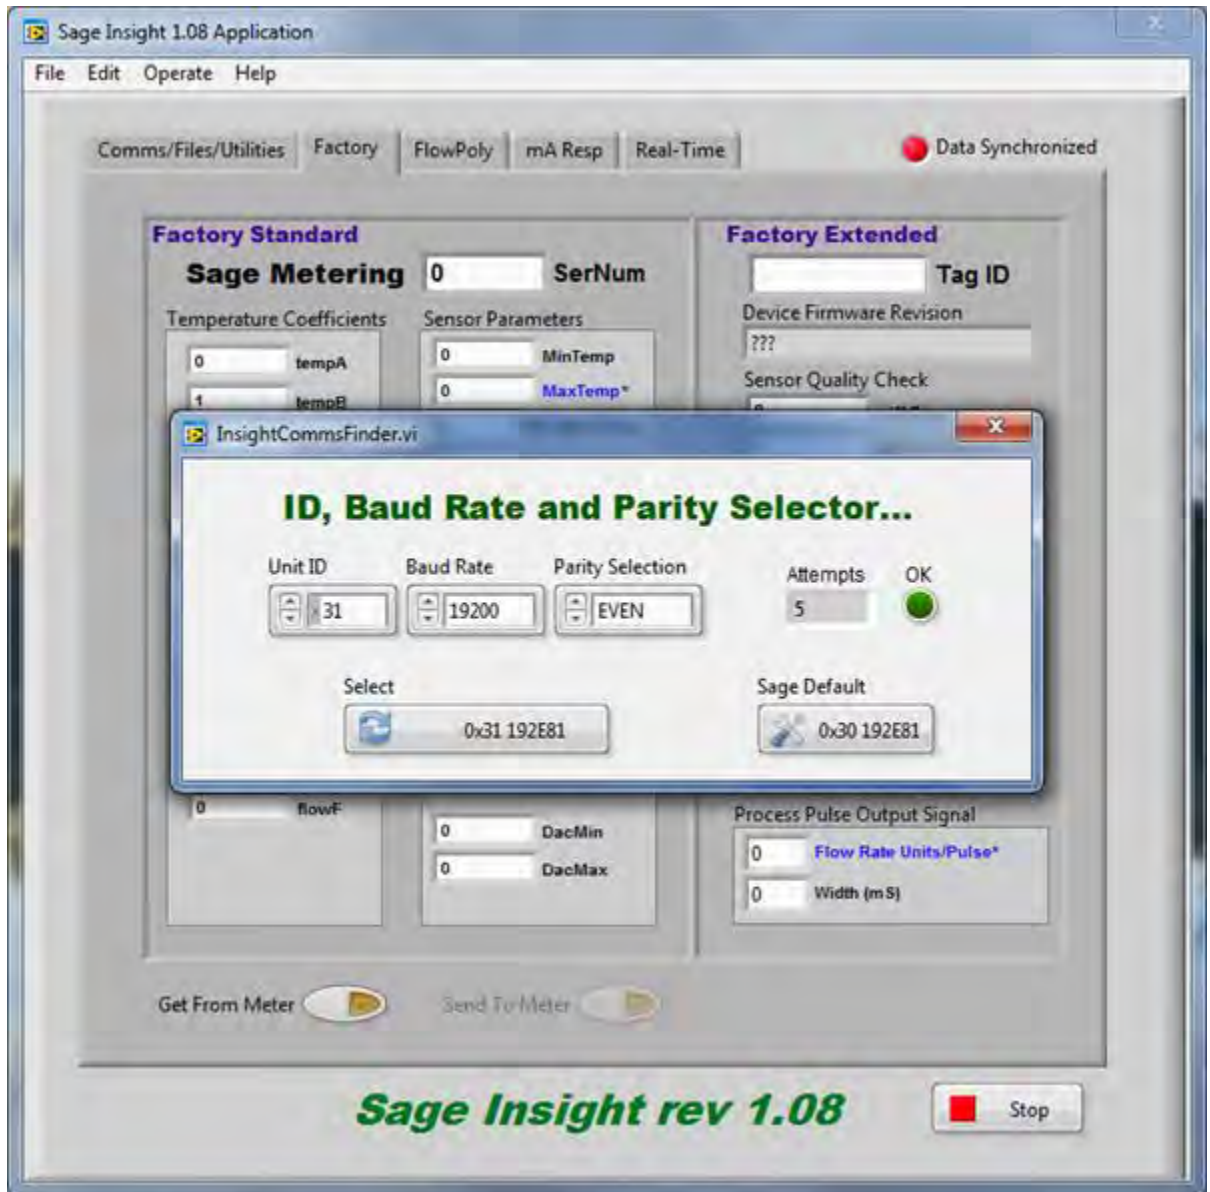

Figure 3
4. The next screen that comes up is the Modbus communications parameters. In this window, you can choose one of two ways to establish communication with your Sage PRIME flow meter. See Figure 3.